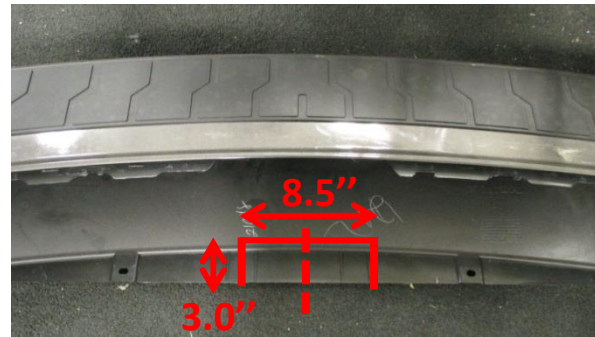
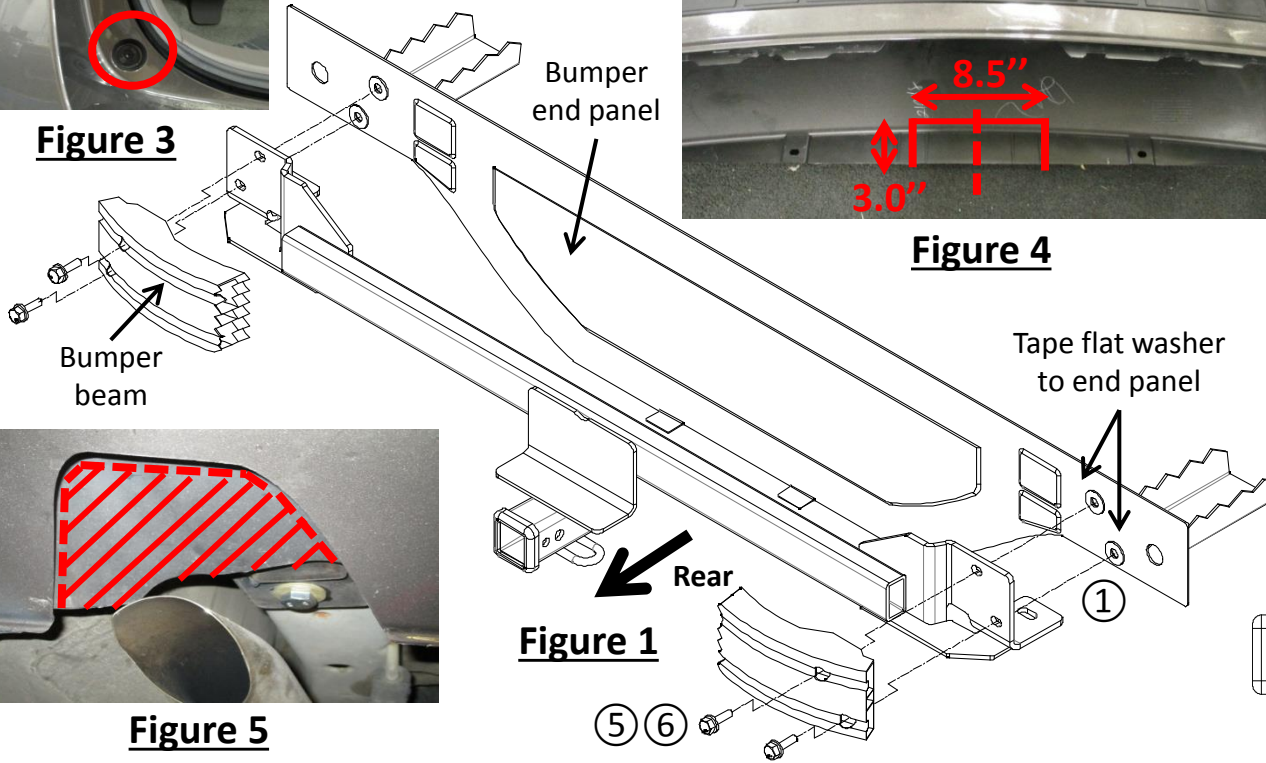

Figure 4
Figure 5
- Bottom fascia trimming** - locate the center of bottom panel and trim 3.0" tall by 8.5" wide area, see **Figure 4**. Trim the fascia area above the muffler as shown in **Figure 5**.